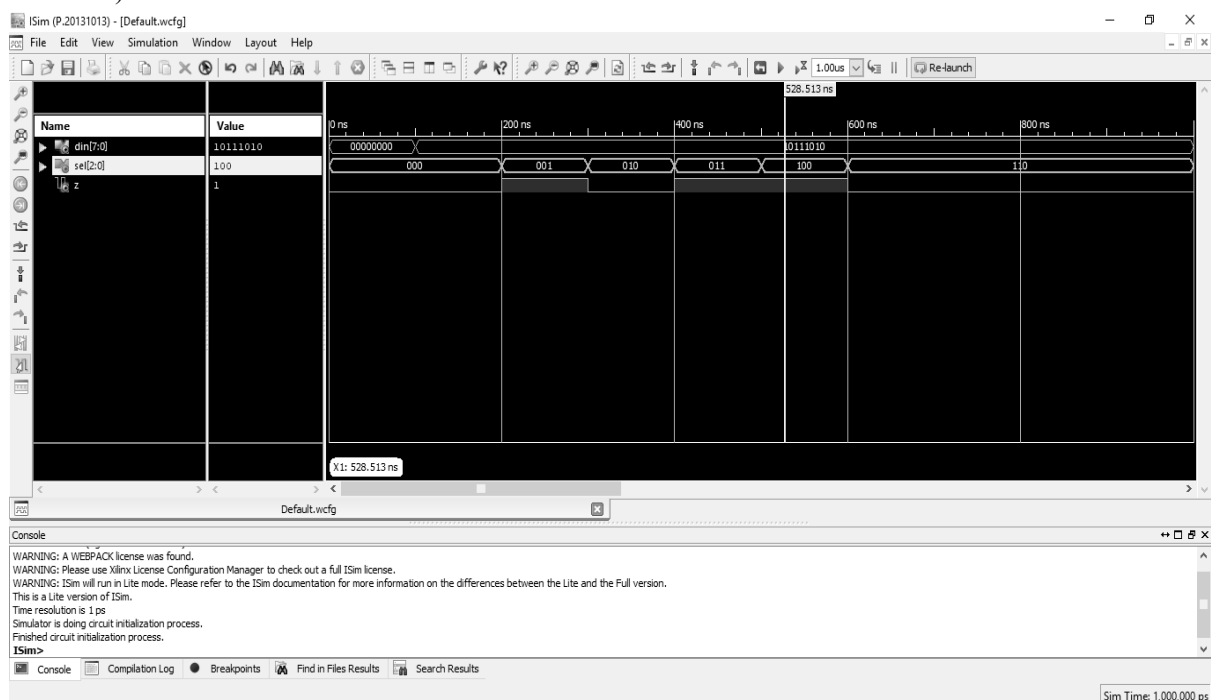

Fig 6.6 MUX Simulation output
9. ISim simulator window will open with simulation executed, as shown in Fig. 6.6. where can simulate designs and check for errors.